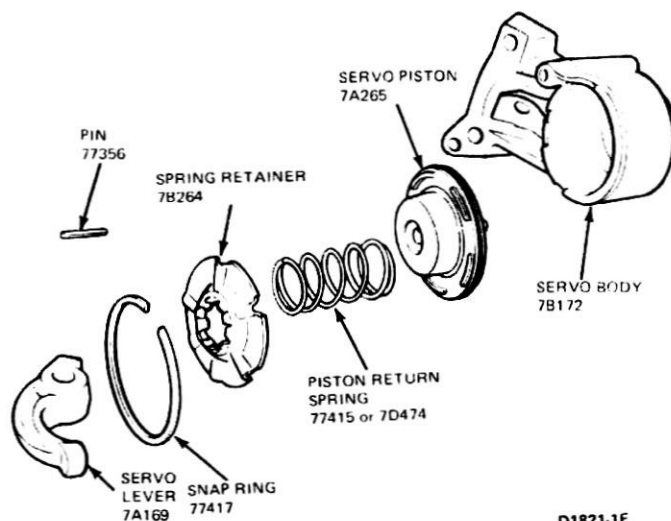

FIG. 29 Rear Servo Disassembled
3. Remove the retainer and servo spring (Fig. 29).
2. Install the piston in the servo body (Fig. 29). **Lubricate the parts to facilitate assembly.**